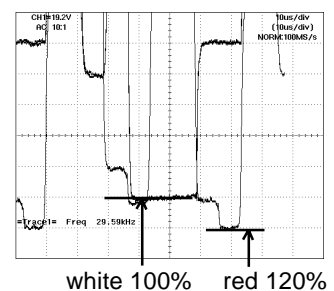

Fig. 2-2
8. Press the VOL. UP/DOWN button on the remote control until the red color level is adjusted to $120 \pm 10\%$ of the white level. **(Refer to Fig. 2-2)**